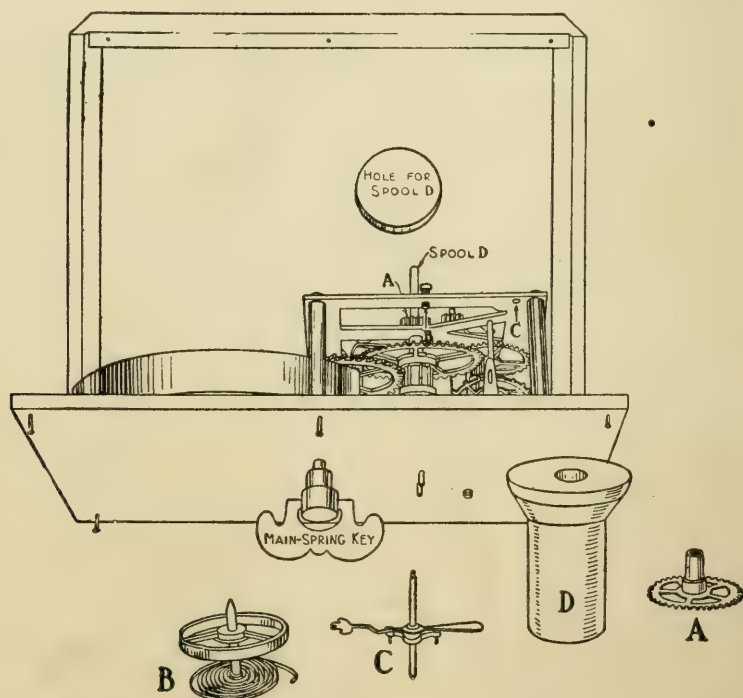

FIG. 257. — How the Clockwork Motor is fastened to the Cigar-box Cover.
To prepare the **Clockwork** for use, remove it from its case, detach the hands and face, and pry off the small wheel pivoted directly under the hands; this wheel is shown at *A* in Fig. 257. Remove also the *balance-wheel*
*B* (Fig. 257) and the *lever C* pivoted next to it, to increase the speed of the remaining wheels.
a cigar box, as illustrated in Figs. 254 and 257, boring holes through the cover with a gimlet for the *pivot* ends on the back of the works to set into. Remove the lower flange from a spool (*D*, Fig. 257) and fasten the spool on to the central pivot of the clockwork in the position formerly occupied by wheel *A*. The hole in the spool will be too large for the pivot and must be filled up with sealing-wax. To do this, hold a piece of sealing-wax above the spool and melt it with a lighted match, allowing it to drip into the hole until the latter is about half full, then press the wax down with the end of a match until it is compact, smooth it off on the bottom of the spool, and make a dent in it with a pencil to indicate the exact center of the hole. Heat the end of the pivot with a lighted match, and press it into the dent in the wax, being careful in doing so to get the spool straight upon the pivot. Cut a hole through the bottom of the cigar box belonging to the cover to which you have attached the works, for spool *D* to project through (Fig. 257).
**To operate the Merry-go-round.** The key by which the mainspring is wound up is shown screwed in place on the under side of the cigar-box cover in Fig. 257. While winding the mainspring, it will be necessary to have some means of checking it so it will not unwind at the same time, and the best scheme for a check is to bore a small gimlet hole through the cover of the cigar box and stick a match through this and run it between the spokes of one of the clock wheels so as to prevent it from turning. Then when you have wound up the spring and are ready to start the merry-go-round, all you have to do is to pull out the match.
go-round was fastened (Fig. 257), but the length of the box is cut down as much as the clockwork will allow to make the box as square and compact as possible.
It is very necessary to have the axle bearings exactly on a line in order to have the wheel run smoothly, so, in fastening the cigar box to its support, be sure that the center of the hole in spool *D* (Fig. 257) is on a level with the spool hub on the opposite support. Nail the supports to a 10-inch by 12-inch board, 8 inches apart, and fasten a cigar box between them for